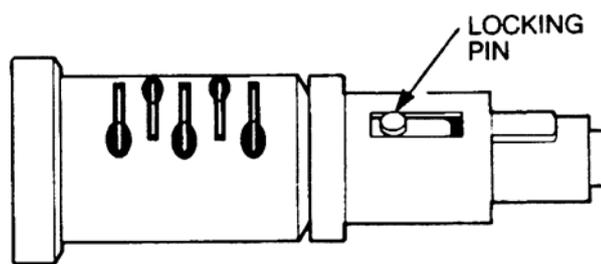

Figure 16 Lock Barrel Insert Removal
- kk. Press the locking pin on the barrel (refer Figure 16).
Ensure that the locking pin is correctly positioned as shown in Figure 16.